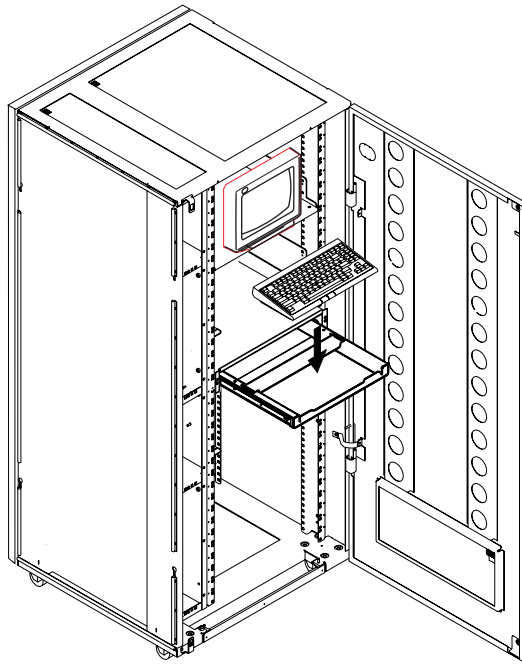

Figure 1-31. Installing the Keyboard
16. ____ Open the drawer and install the keyboard as shown in Figure 1-31.